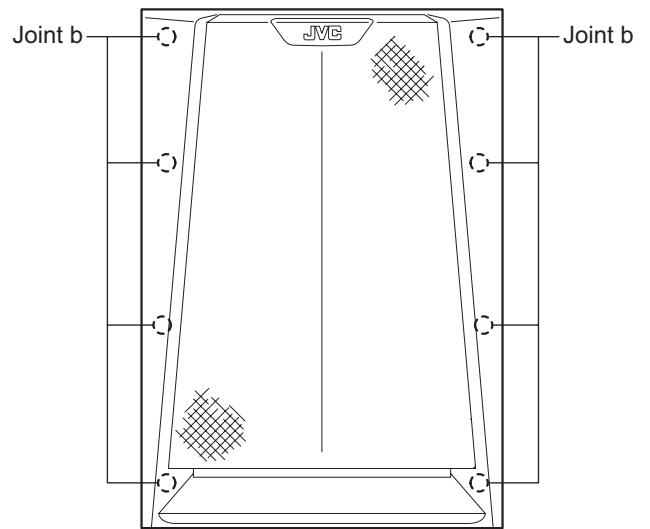

Fig.5
3.5.2.1 Removing the front cover (See Fig.5)
Do not break or damage the front panel and body that are glued at the joints **b**. (See Fig.5)